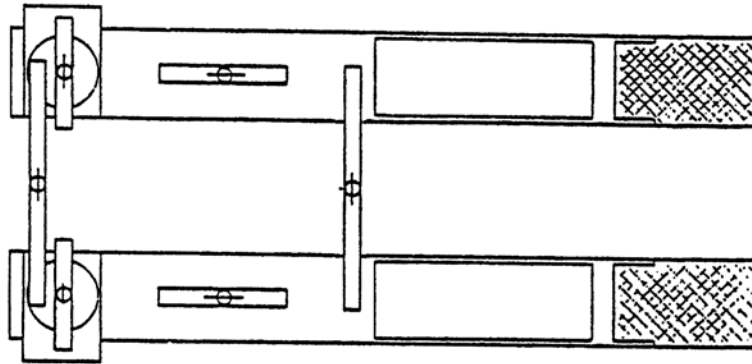

Figure 7. Deck levelling
6. Check and adjust the decks for level using the 4' level. Adjusting screw and jam nuts should be adjusted until each corner of lift is level. Make sure jam nuts are tightened after levelling. Both the front turn plate cutouts and rear slip plates should be checked. Refer to **Figure 7**.